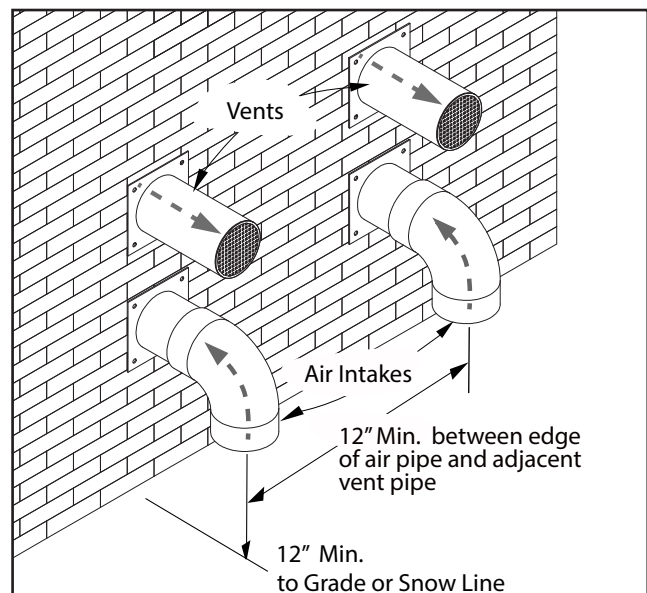

Figure 11. Multiple Side Wall Terminations
10. Multiple terminations must be installed with a minimum horizontal separation between the outlet group and inlet group of 12 inches (30 cm). (See Figure 11).